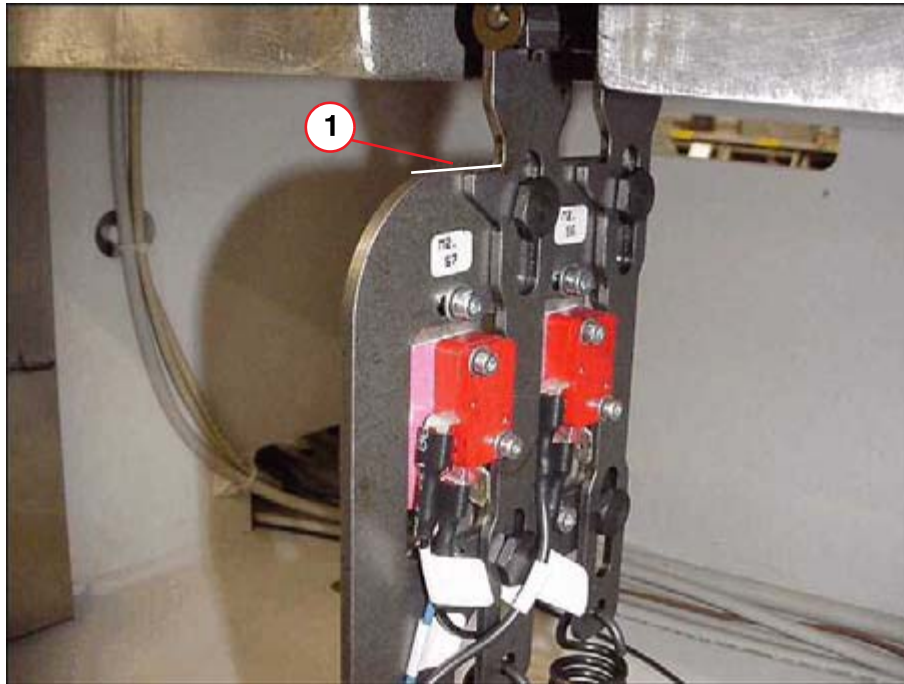
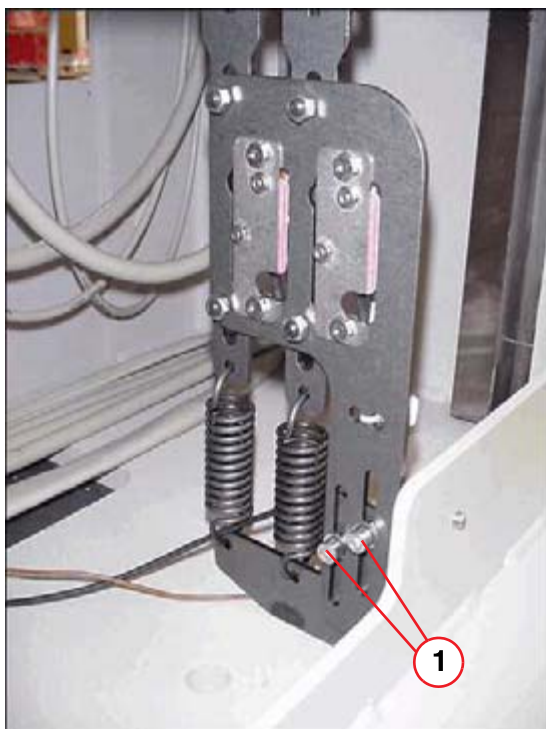

Fig. 10: Safety switch on the back of the lifting base
Fig. 11: Lifting base installation
- Align the marked edge of the moving part with the upper edge of the stationary part (1/Fig. 10 / p. 15).
When installing the lifting base, check the setting shown in (1/Fig. 10 / p. 15) and adjust it if necessary by loosening the two Allen screws (1/Fig. 11 / p. 16). Subsequently retighten these screws.